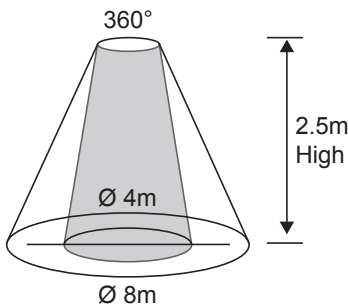

Figure 1
4. Range of detection reach up to 8m diameter, minor movement within 4m diameter. Refer to the figure 1.